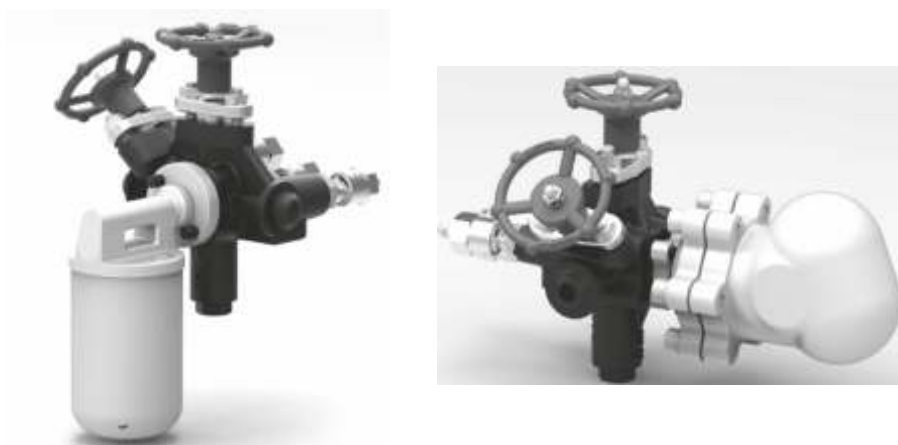

Figure 6. Steam trap fitment on FMPC57
7.12.2. To remove / replace a steam trap fitted to Forbes Marshall Pipeline Connector [FMPC57] : (Refer figure 6)